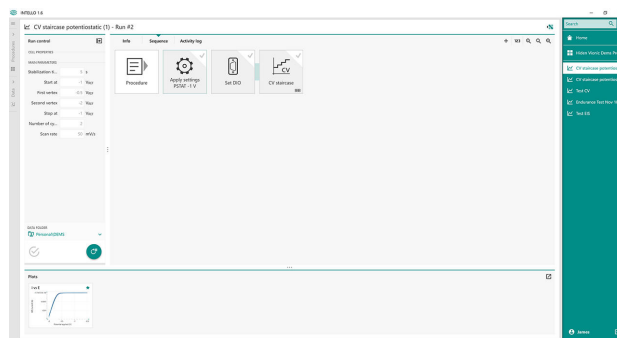

Figure 3. End-state of the instrument in INTELLO.
Automatic current ranging should also be disabled in order to ensure that the current passed to the Hiden software is correct. Using a trigger cable, INTELLO is able to trigger the mass spectrometer to begin scanning. The Hiden software utilizes a falling edge trigger. The initial/end state of the DIO port on the potentiostat (**Figure 3**) prior to the measurement should therefore be set to high (1). Pin 5 is used for this.